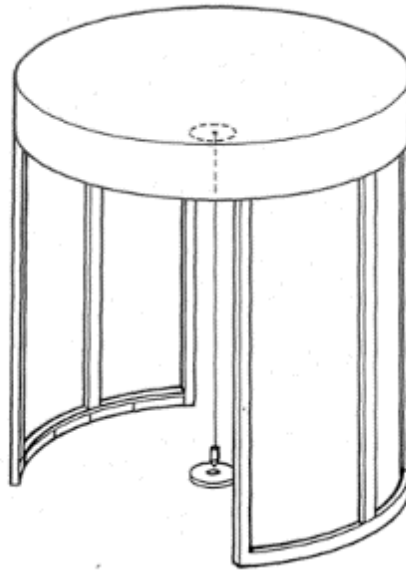

Figure 4.1
- 2) Using a plumb-bob or laser plumb, plumb from the centre of the upper collapsing mechanism down to the centre point of layout on finished floor (Figure 4.1). Watch for any draft, it may be necessary to erect a piece of plywood or any kind of a screen to ensure the plumb hangs straight. (Not necessary if using laser plumb line).